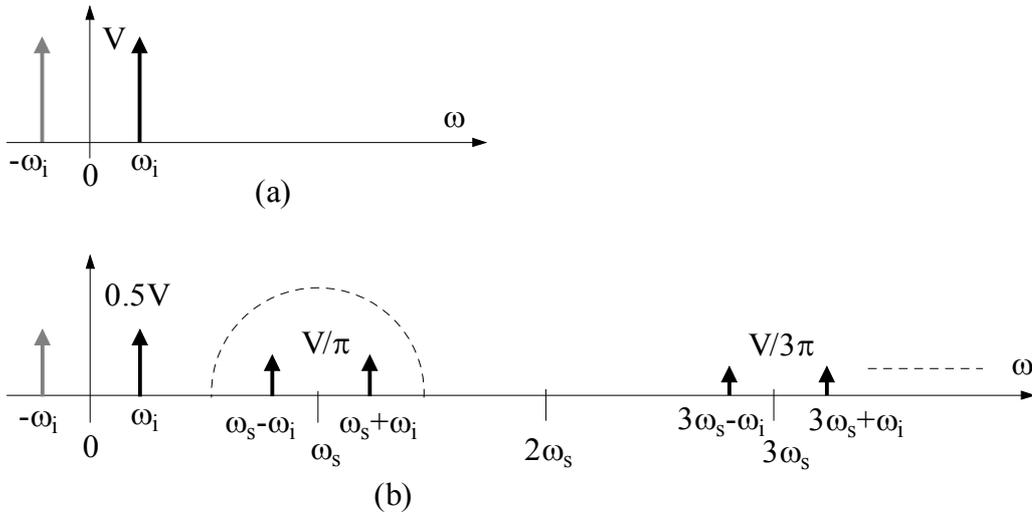

Figure 7.4 Frequency spectrum of (a)  $v_{in}(t)$  and (b)  $v_{out}(t)$
The frequency of the input signal  $v_{in}(t)$  is now shifted by all odd harmonics of the switch frequency. The signal component  $(2/\pi) (V) \sin(\omega_s t) \cos(\omega_i t)$  in  $v_{out}(t)$ , for example, can be viewed as a DSBSC AM signal where  $\omega_s$  is the carrier and  $\omega_i$  is the modulating frequency (or the other way around). The spectra of  $v_{in}(t)$  and  $v_{out}(t)$  are given in Figure 7.4.